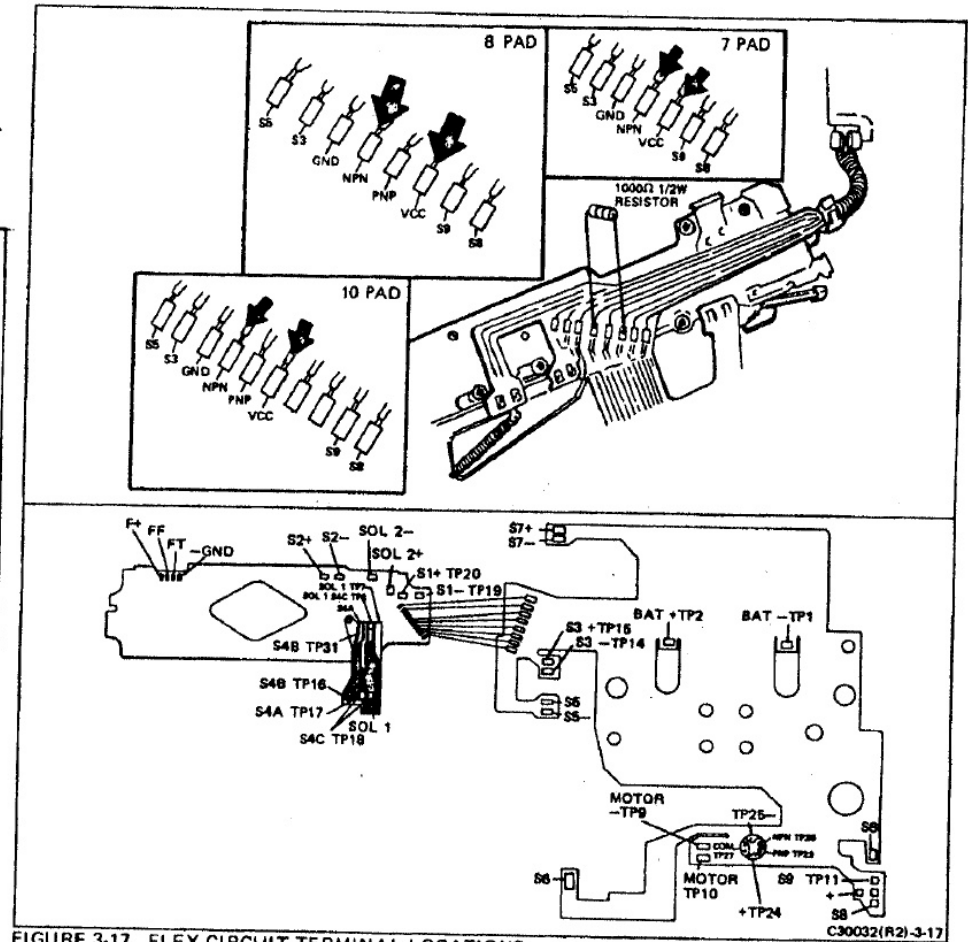
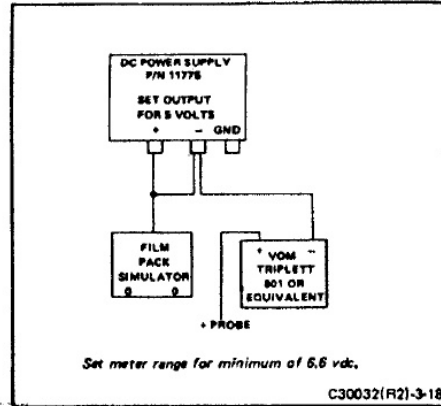
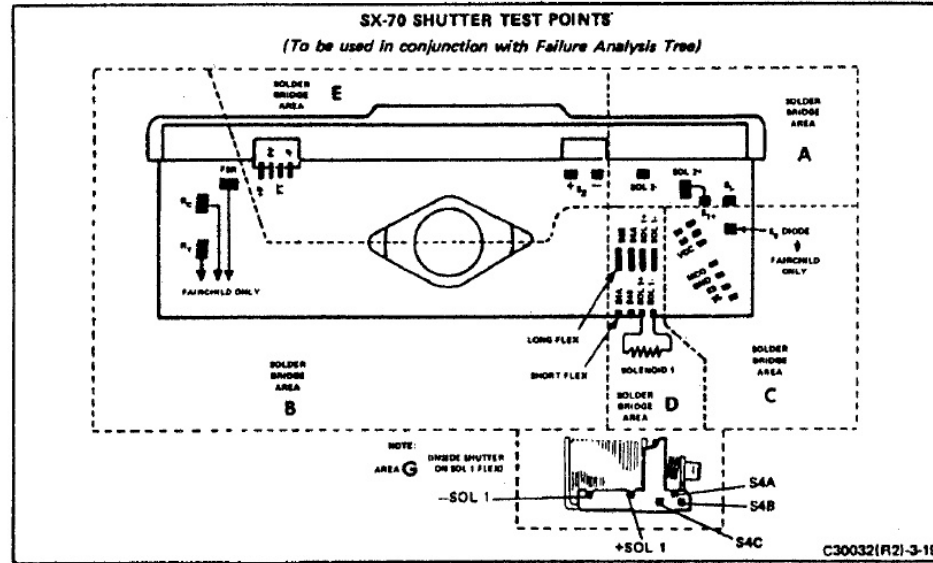

FIGURE 3-17 FLEX CIRCUIT TERMINAL LOCATIONS
FIGURE 3-18 TEST INSTRUMENT CONNECTIONS
FIGURE 3-19 TEST POINTS ON SX-70 SHUTTERS
a. Disassemble the camera to the point where the terminals on the flex circuit are accessible (Figure 3-17).
NPN terminal is located directly adjacent to the VCC terminal. Refer to the insets in Figure 3-17 to locate the proper terminals.
Figure 3-18. The film pack simulator is inserted into the camera and the negative lead from the VOM is connected to camera ground through the power supply. This allows all the tests to be completed simply by moving the VOM lead as a probe from point to point. Figure 3-17 in conjunction with Figure 3-19 will assist you in locating the test points or terminals called out.